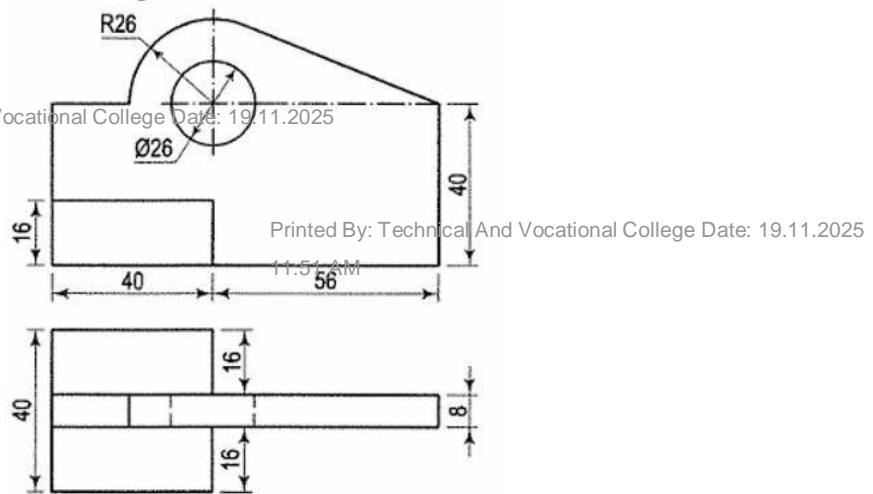

Figure 4
14. Figure 4 below represents an orthographic projection of a casting flange attached to suspension system of vehicle. Draw the oblique projection from the diagram given. (All dimensions are in mm) (20 Marks)